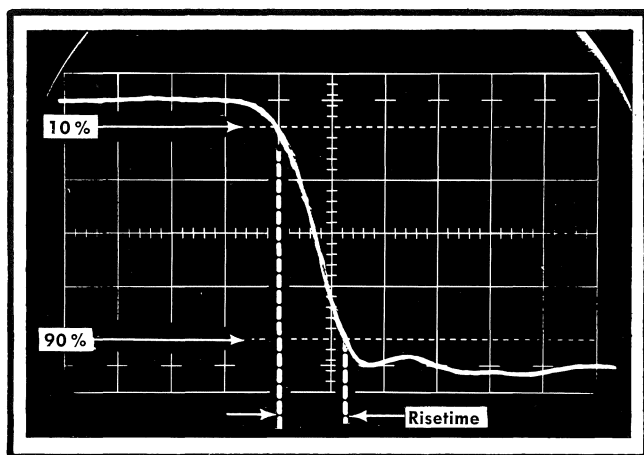

Fig. 6-3. Typical CRT display of risetime (TDR configuration).
- i. Measure the risetime between the 10% and 90% amplitude points on the reflected portion of the pulse. Measured risetime should be 140 ps. See Fig. 6-3.